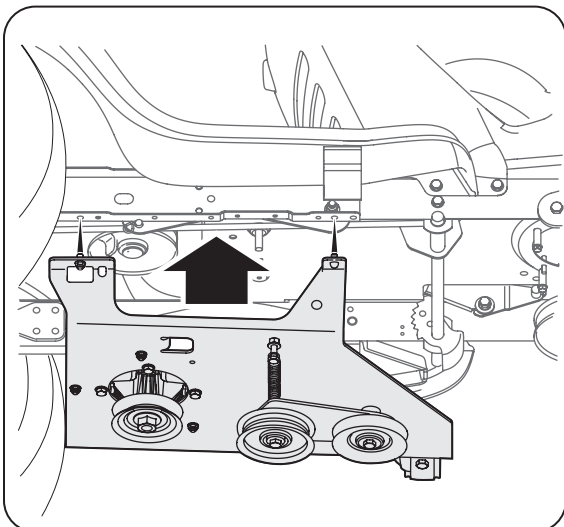
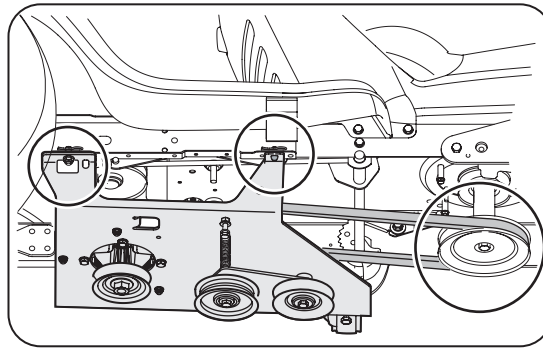

Figure 4-6
Figure 4-7
2. With the undercarriage assembly beneath the tractor, see Fig. 4-6, lift the undercarriage assembly up against the frame of the tractor. The weldpins on the top of the undercarriage assembly should go through the aligning holes found along the tractor's frame. See Fig. 4-7.
4. Route the upper drive belt around the engine pulley. See Fig. 4-7.